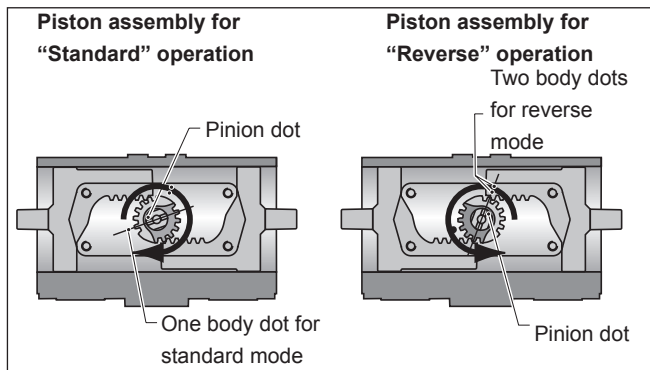

Fig. 6 Pinion alignment
Standard rotation is clockwise with the Pistons moving towards each other (When viewed from above the slot at the top of the Pinion, see Fig. 6).
(Pistons moving inwards, Fig. 6).
- 3 Pass the correct HYTORK Retractor Rod through the End Cap (Fig.6) and screw it into
- For XL 26 to XL681 the Pistons (20)
- 7 When the End Caps are in place and the SAFEKEYS fitted correctly, remove the HYTORK Retractor Rods and replace the Sealing Bolts (28) and seals (29).